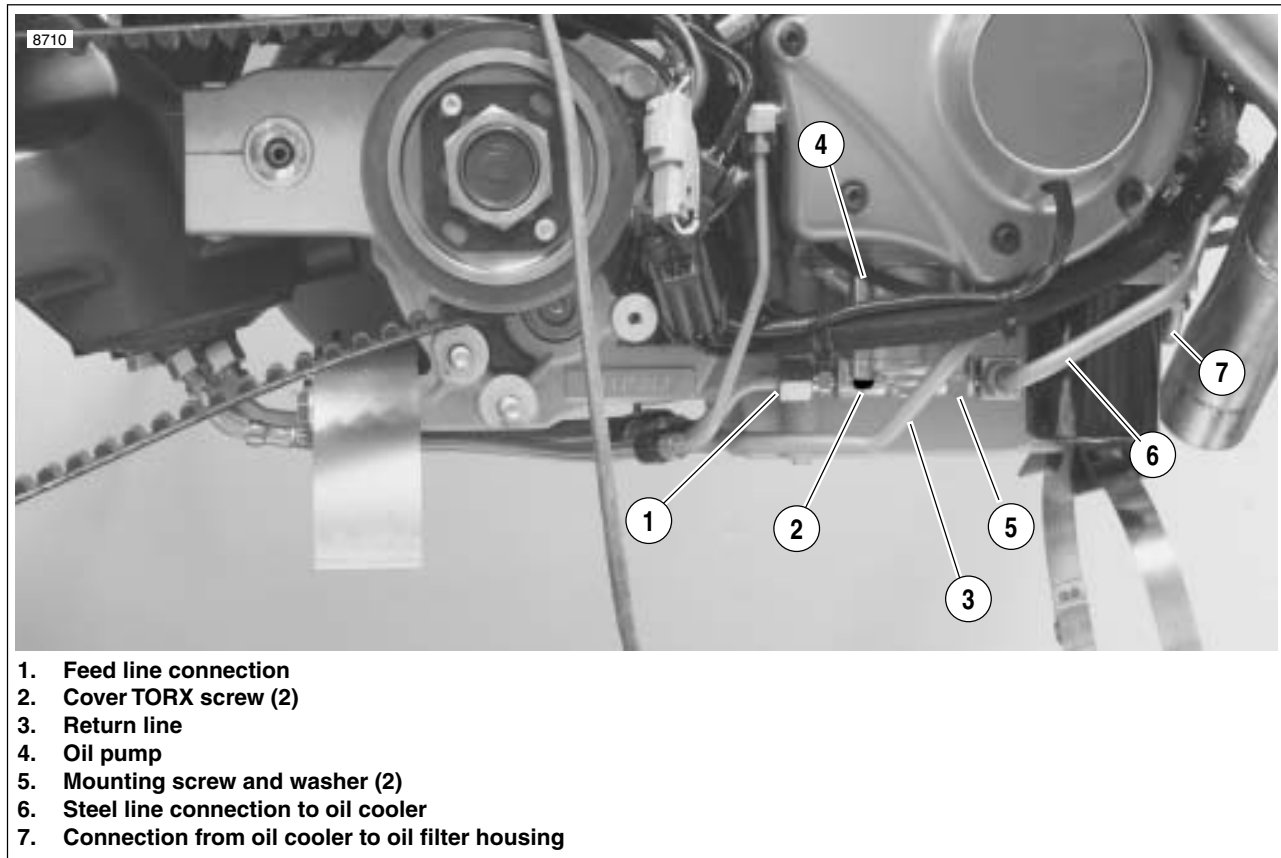

Figure 3-119. Oil Pump Hardware
3. See Figure 3-119. Disconnect feed line connections (1 & 6) on both sides of the oil pump.
4. Detach return line connection (3).
5. Carefully remove mounting screws (5) and washers only. Pump will drop with screws removed. Discard mounting gasket.
6. Remove cover TORX screws (2). Lift cover off body.
10. See Figure 3-119. Attach return line connection.